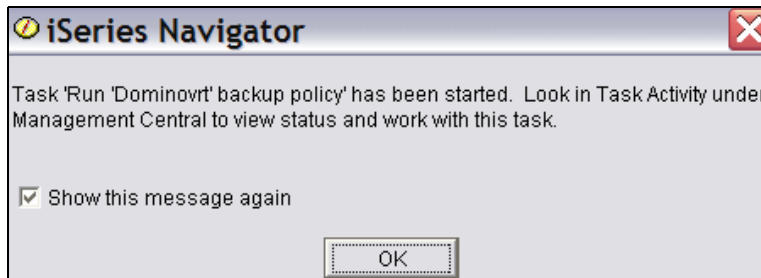

Figure 5-69 BRMS run Domino backup, job started
5. The save job is started in the window shown in Figure 5-69. Click **OK**.